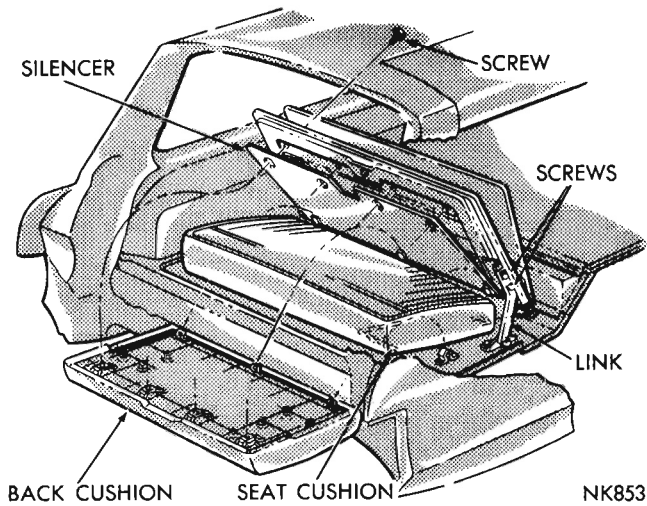

Fig. 35 - Third Seat Back and Cushion
- (1) With third seat back in the UP position (Fig. 35) remove the seat hinge links screws.
- (2) Remove seat back and support panel assembly.
- (3) The seat back cushion is retained with screws to the seat back panel.
The third seat cushion (Fig. 35) is attached to hinges which in turn are attached to the quarter inner panels by screws.
Refer to Figure 35 for the attaching points and method of attachment for the third seat back and cover panel assembly.